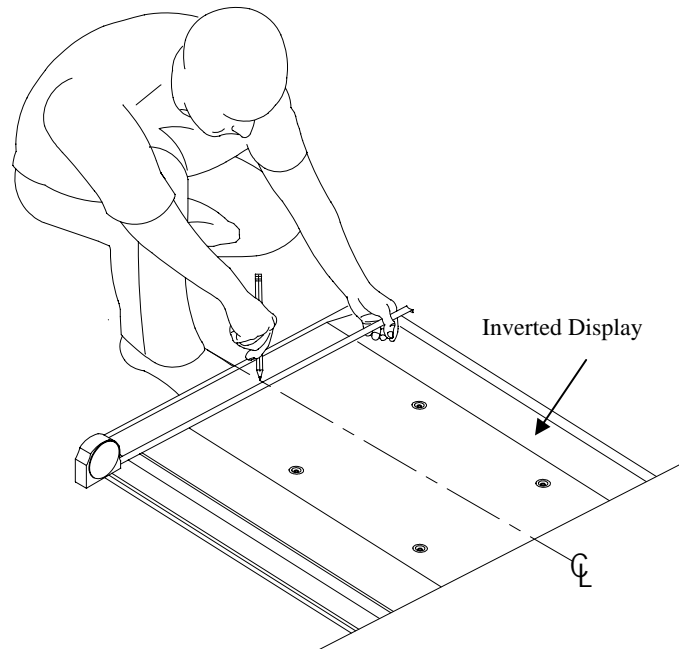

Figure 2. Marking the Display
2. Using a pencil lightly mark the center of your flat panel (Figure 2).